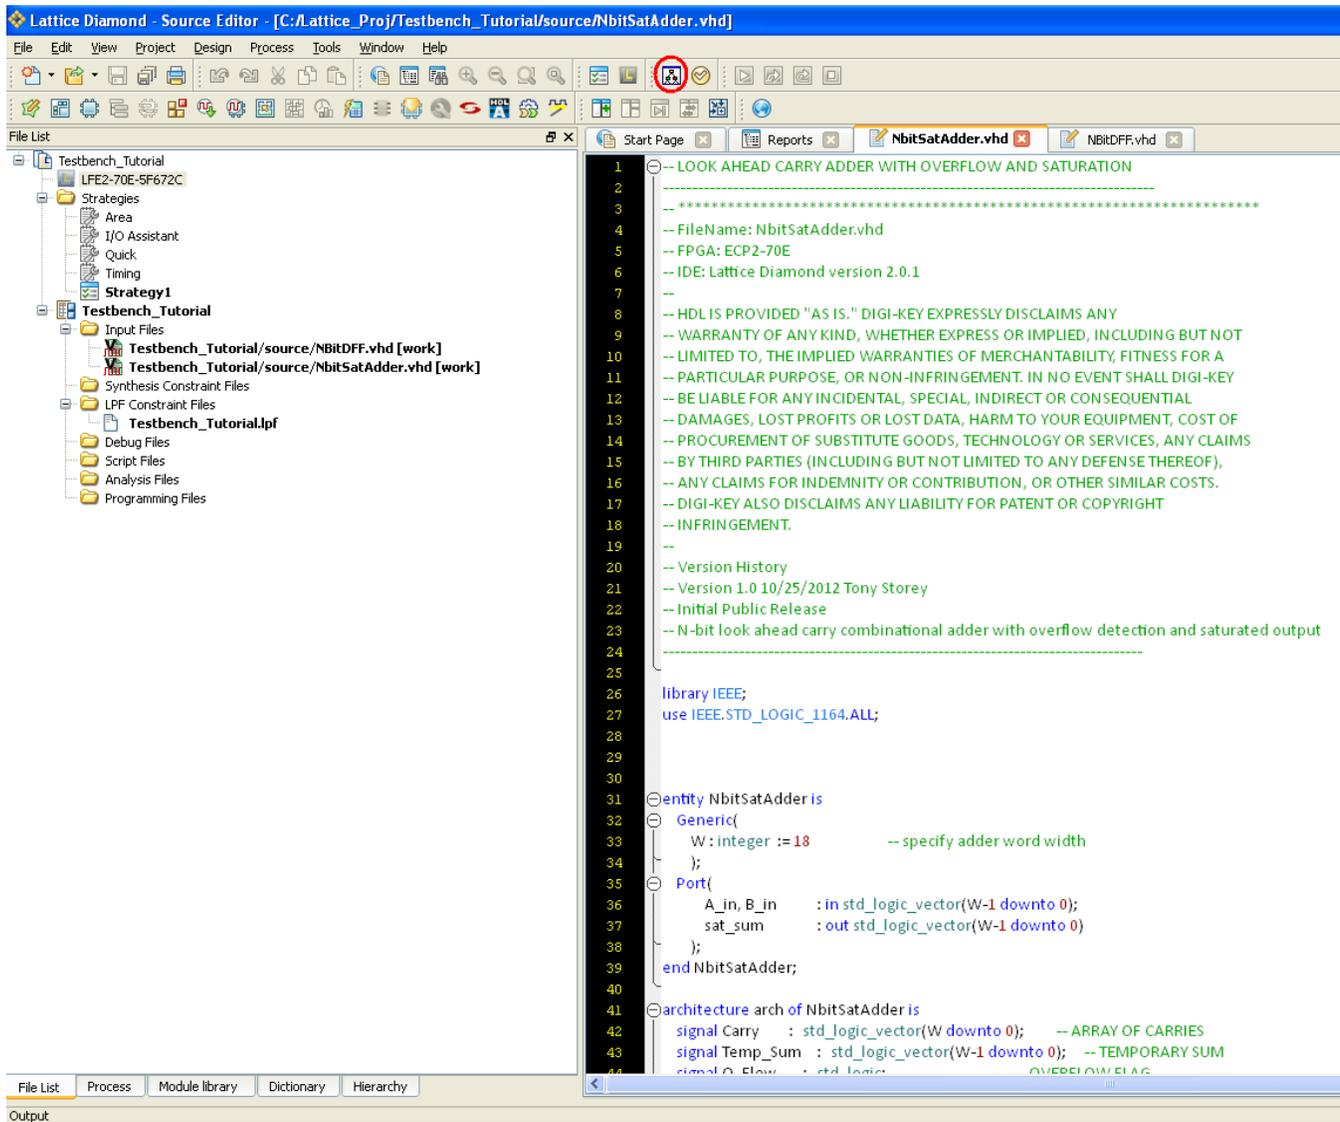

Figure 1 – Diamond Design Environment
5. In the File List window double click on either of the .vhd files to open them for viewing. The environment should look similar to Figure 1 found below.